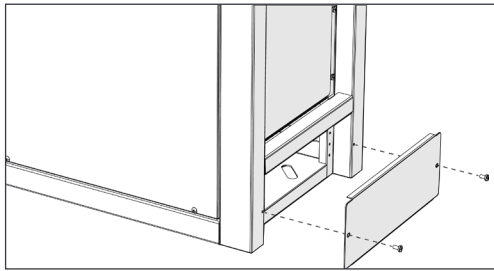

Figure 3. Bottom front panel
Step 1. Uninstall the bottom front panel by removing the (2) #12-24 screws (see Figure 3).